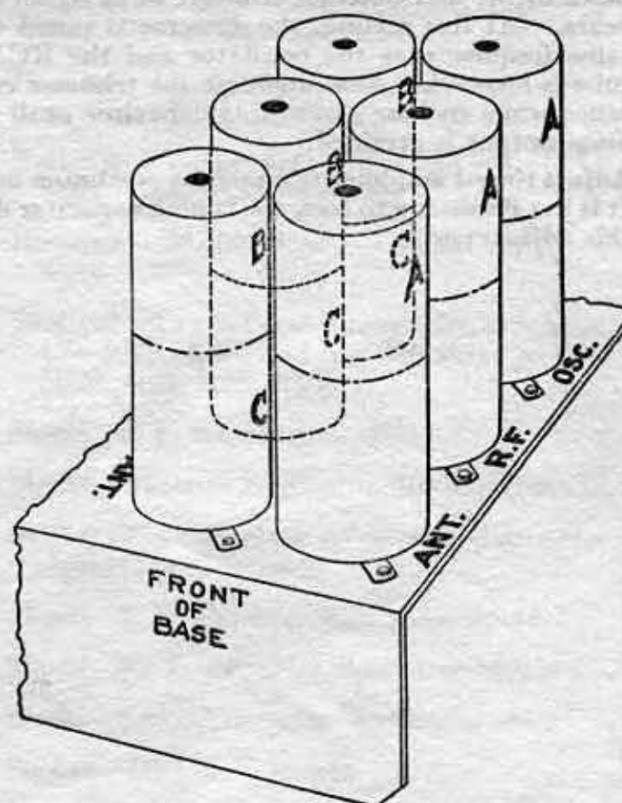

Figure 7—Locations of R-F Coils
**Tuning Wand**—This tool permits checking the accuracy of r-f alignment without disturbing any of the trimmer adjustment screws. It consists of a bakelite rod with a brass cylinder at one end and iron laminations at the other end. An opening is provided in the top surface of each shield in the r-f assembly (see Figure 7) for inserting the wand. Obviously, the inductance of any coil will be lowered when the brass end is inserted and will be raised upon insertion of the iron end. The trimmer setting is correct when the output at alignment frequencies is decreased alike by each end of the wand. If either end causes an increase in output, it is evident that the associated trimmer requires adjustment.